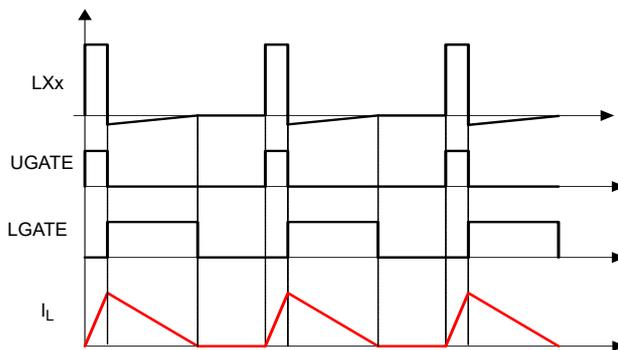

Figure 55. Diode Emulation
Diode Emulation (DE) allows for higher converter efficiency under light-load situations. In DE mode, the low-side MOSFET conducts when the current is flowing from source-to-drain and does not allow reverse current, emulating a diode. As shown in Figure 55, when the LGATE signal is HIGH, the low-side MOSFET carries current, creating negative voltage on the phase node due to the voltage drop across the ON-resistance. When the DE pin is pulled HIGH, the ISL70003ASEH is in DE mode and detect the zero current crossing of the inductor current, and turn off the lower MOSFET to prevent the inductor current from reversing direction and creating unnecessary power loss. This ensures that Discontinuous Conduction Mode (DCM) is achieved. Because diode emulation prevents the low-side MOSFET from sinking current, no negative spike at the output is generated during prebiased startup when DE mode is active.